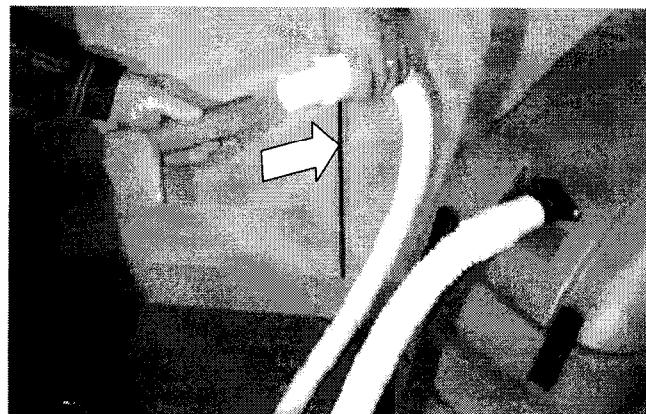

FIG. 7.
- Connect desired optional accessory tools to vacuum hose. (Figure 7.)